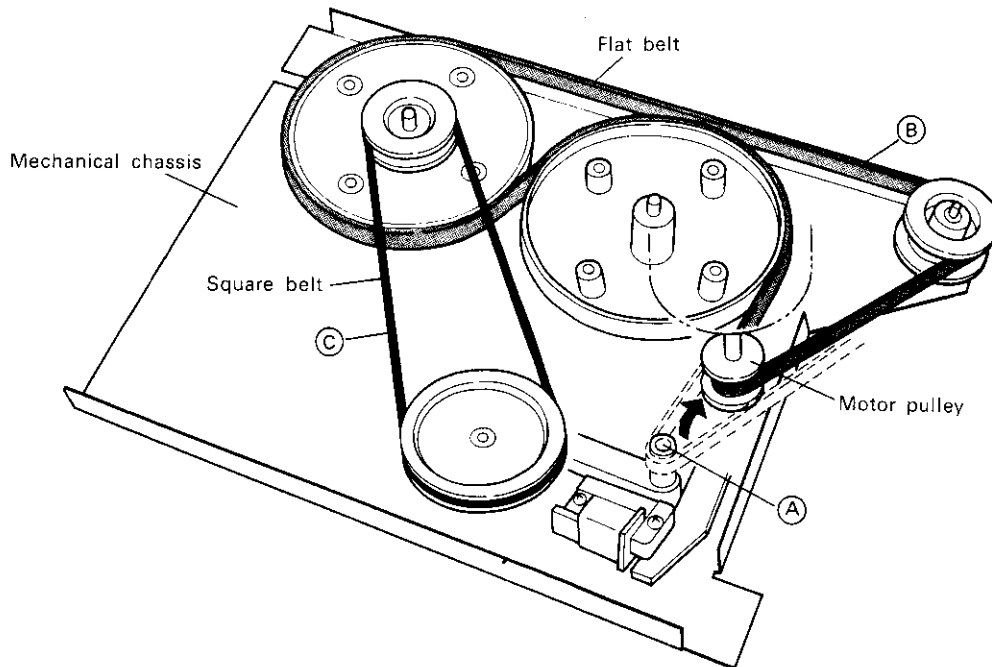

Fig. 13-4 Appliance of belt
1. Apply the flat belt as shown in the broken lines through ① section (belt temporary holding shaft) in the Fig 13-4.
2. Apply the square belt as shown ② in Fig.13-4.
3. Install the FW receiving plate to the mechanical chassis and transfer the flat belt, which has been held temporary at ① section, to the motor pulley.